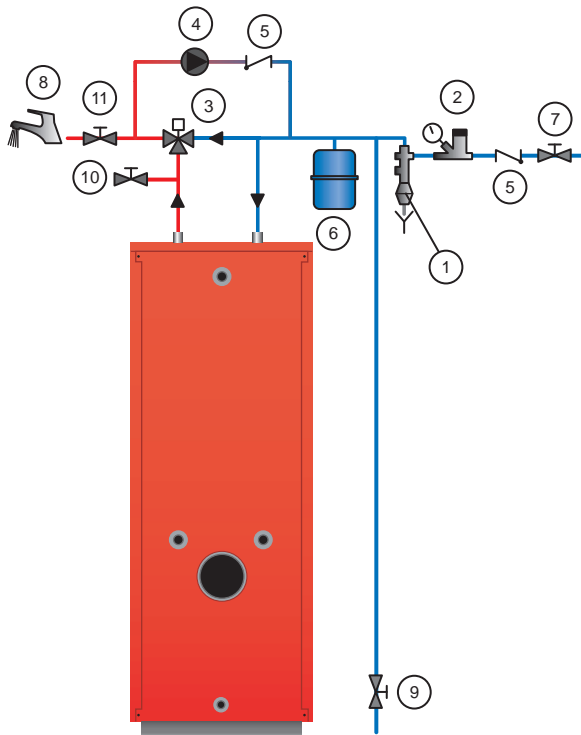

Fig. 19: Hot water connection
1. Fill the hot water circuit opening valves 7 and 8 and pressurise it. (Fig. 19, page 13)
### Draining the hot water circuit (Fig. 19)